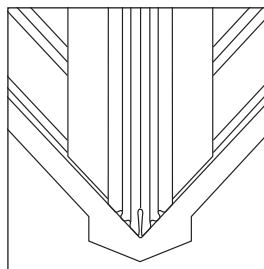

Fig. 5 – Fixing the valley trough
- 5 Fix dry valley trough by nailing outer welts to supporting timbers at 500mm max, centres, and overlapping lead (Code 4) apron by a minimum of 150-200mm (Fig. 5, page 153).